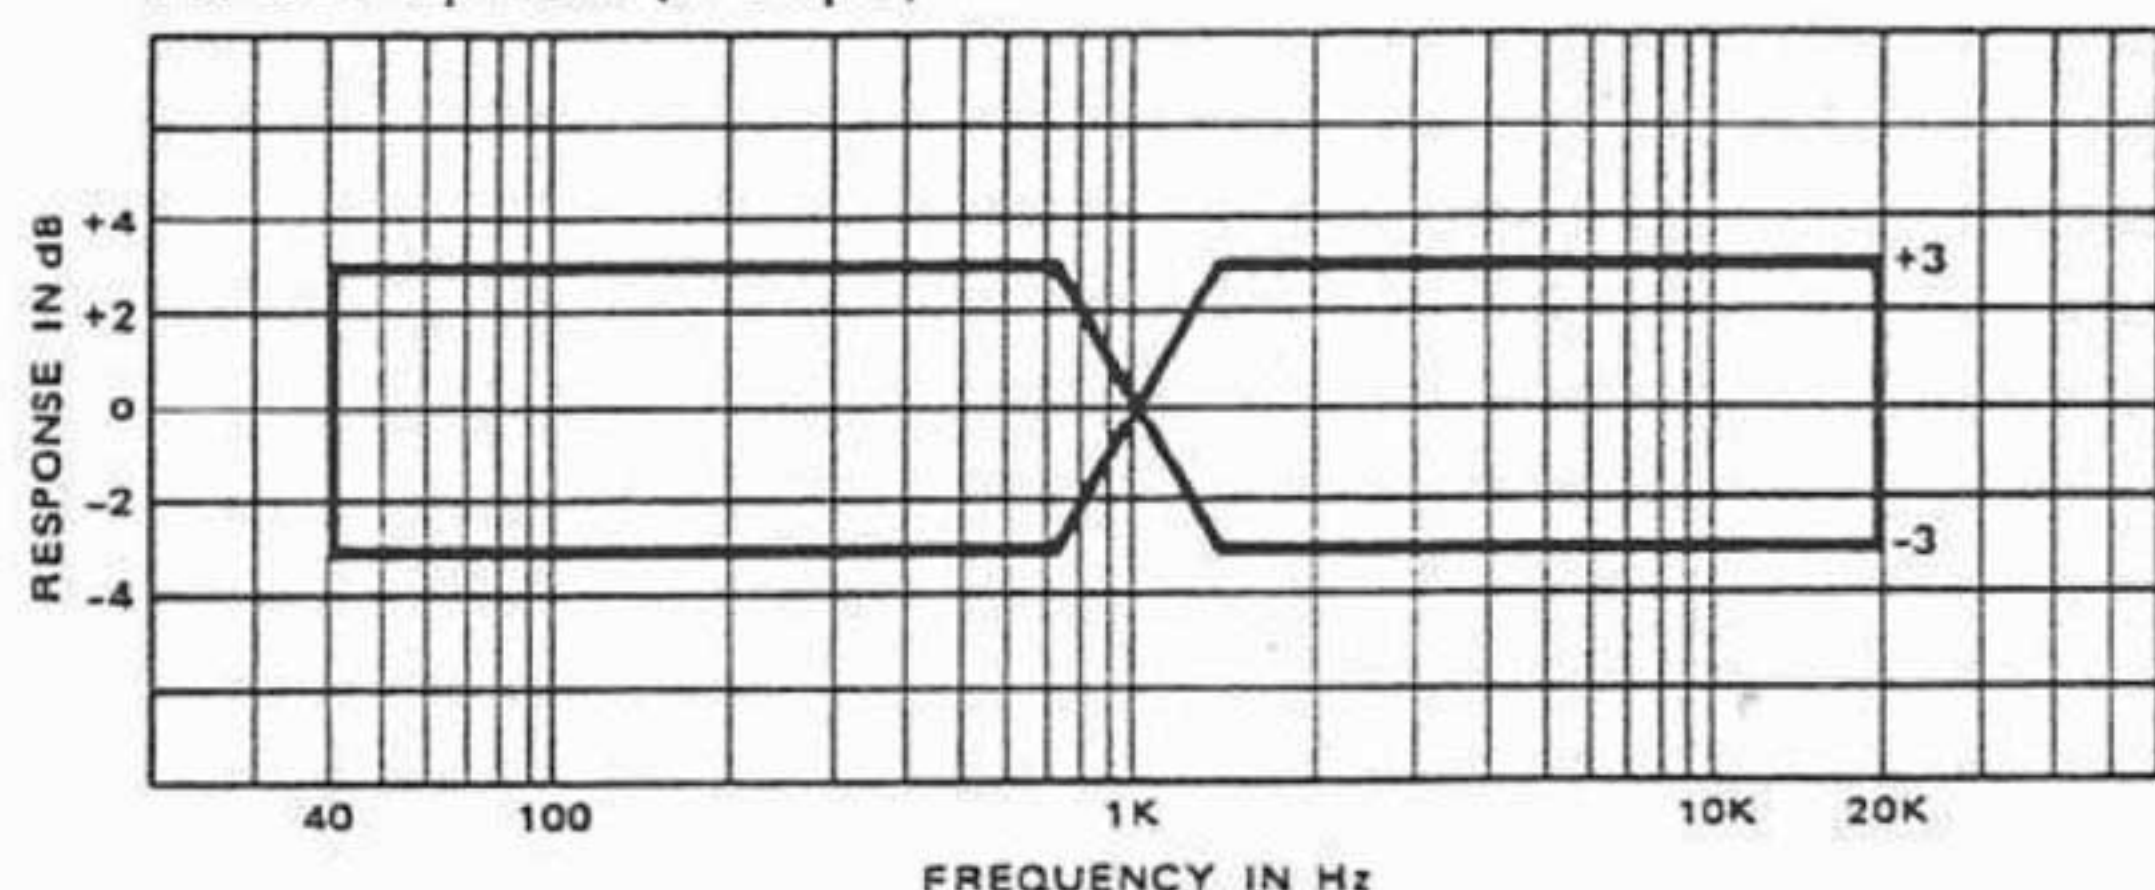

FIG. 35. REPRODUCE FREQUENCY RESPONSE
3. Measure the output signal and check that the frequency range is within the limits shown in Fig. 35. If necessary, adjust the following pots on the R/P AMPL PCBs: